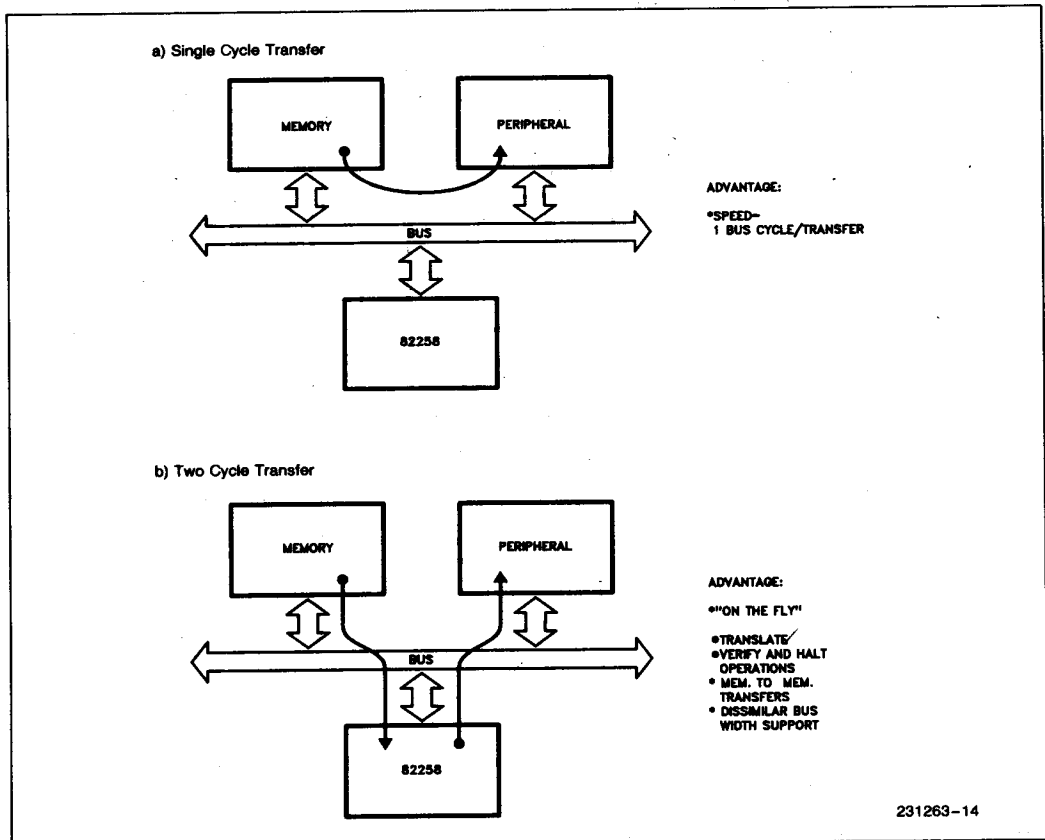

Figure 15. Single/Two Cycle Transfer
- Highest speed DMA transfers in the single cycle transfer mode. In this mode bytes or words (16 bits) are transferred directly from the source to the destination without storing the data in the 82258 registers (Figure 15). The single cycle transfer mode does not, necessarily, mean one bus cycle for transfer (though most of the transfers require either a source or a destination data cycle only). Maximum single channel or multiple channel transfer rate of 8 MByte/sec. in an 8 MHz 80286 system (4 MByte/sec in 8 MHz 80186 systems) is achieved in this mode.